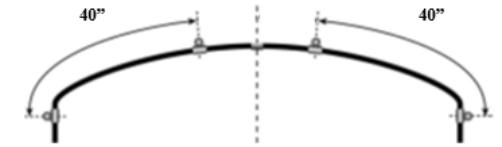

Figure 1: Monet Pergola Cross Pole Positioning on the Monet Curves.
- The second Pergola Cross Pole needs to be placed 40" below the top Cross Pole, to allow for the lattice infill as illustrated in Figure 1. This may require the second cross pole to be positioned on the join between the curve and the upright.